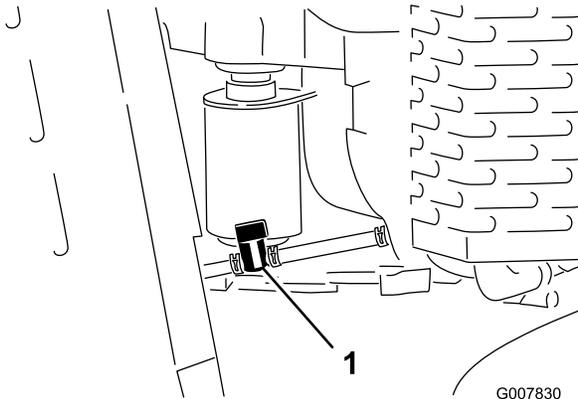

Figure 40
4. Turn the fuel shut-off valve to the closed position (Figure 40).
3. Turn the fuel shut-off valve to the closed position (Figure 40).
5. Squeeze the ends of the hose clamp on the engine side of the shut-off valve together and slide it up the fuel line away from valve (Figure 40).
6. Pull the fuel line off the valve (Figure 40). Open the fuel shut-off valve and allow the gasoline to drain into a gas can or drain pan.
7. Turn the fuel shut-off valve to the open position (Figure 40).